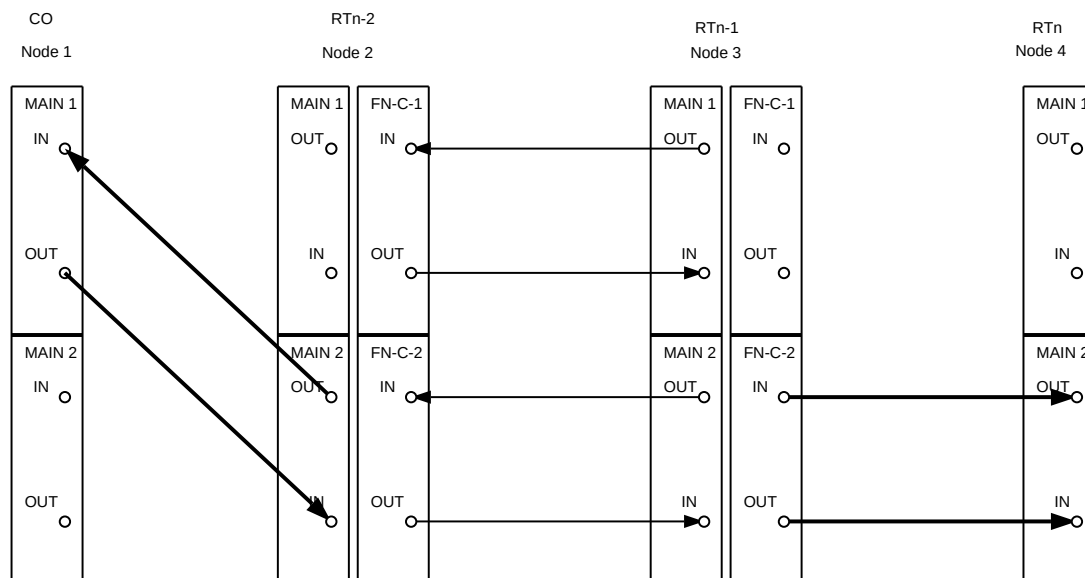

Figure 18. DDM-2000 OC-3 Drop or Add/Drop Network to Ring Upgrade
29. At Node 1 (CO) and Node 2, disconnect fiber from **MAIN 2(P) OUT** at the CO and **MAIN 1 IN** at Node 2. Disconnect fiber from **MAIN 2(P) IN** at the CO and **MAIN 1 OUT** at Node 2. (See Figure 18.)
30. At the next-to-last Node (Node 3), use the **"switch-line:fn-c:pri>manual"** command to switch service to the protection line (fn-c-2 OLIU active at Node 3). At the last Node (Node 4), use the **"switch-line:main:pri>manual"** command to switch service to the protection line (main-2 OLIU active at Node 4). (See Figure 18.)
31. At the last Node (Node 4) and next-to-last Node (Node 3), disconnect optical fiber from **MAIN 1 OUT** at Node 4 and **FUNCTION UNITS C 1 IN** at Node 3. Disconnect fiber from **MAIN 1 IN** at the Node 4 and **FUNCTION UNITS C 1 OUT** at Node 3. (See Figure 18.)